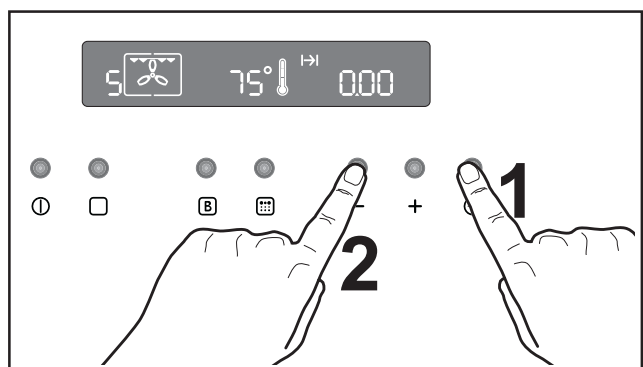

Fig. 12
- press button "-" to decrease the time until the display shows "0.00" (Fig. 12).